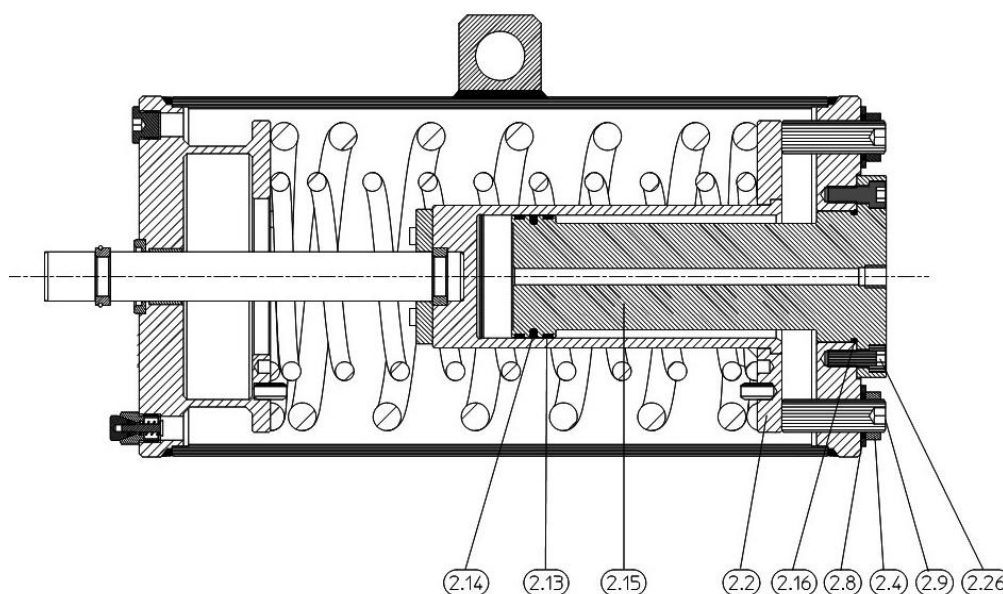

Fig. 10 – Hydraulic cylinder seals replacement of single acting actuator
<p>Warning</p> 	<p>Before starting with the disassembling of the hydraulic parts be sure that the power fluid is completely exhausted and the end stoppers (item 9 on Fig. 10) are fully engaged and blocked against the spring holder</p>